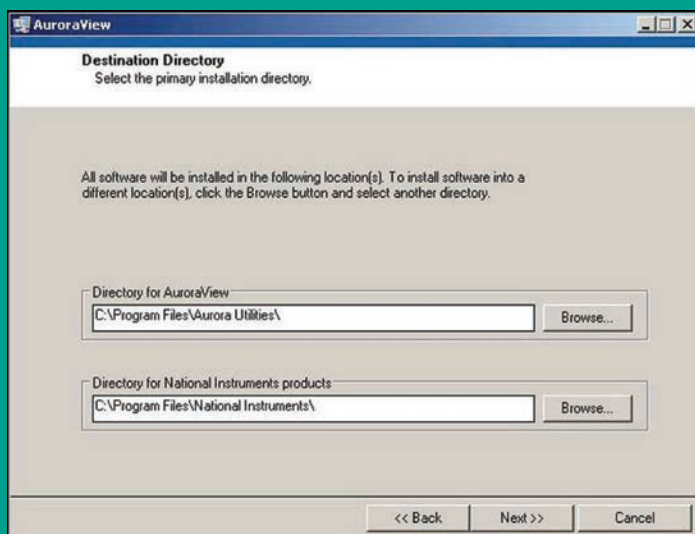

Figure 49: Destination directory
5. The next screen (see *Figure 49* below) provides the opportunity to change installation locations if desired. When ready, click *next*.